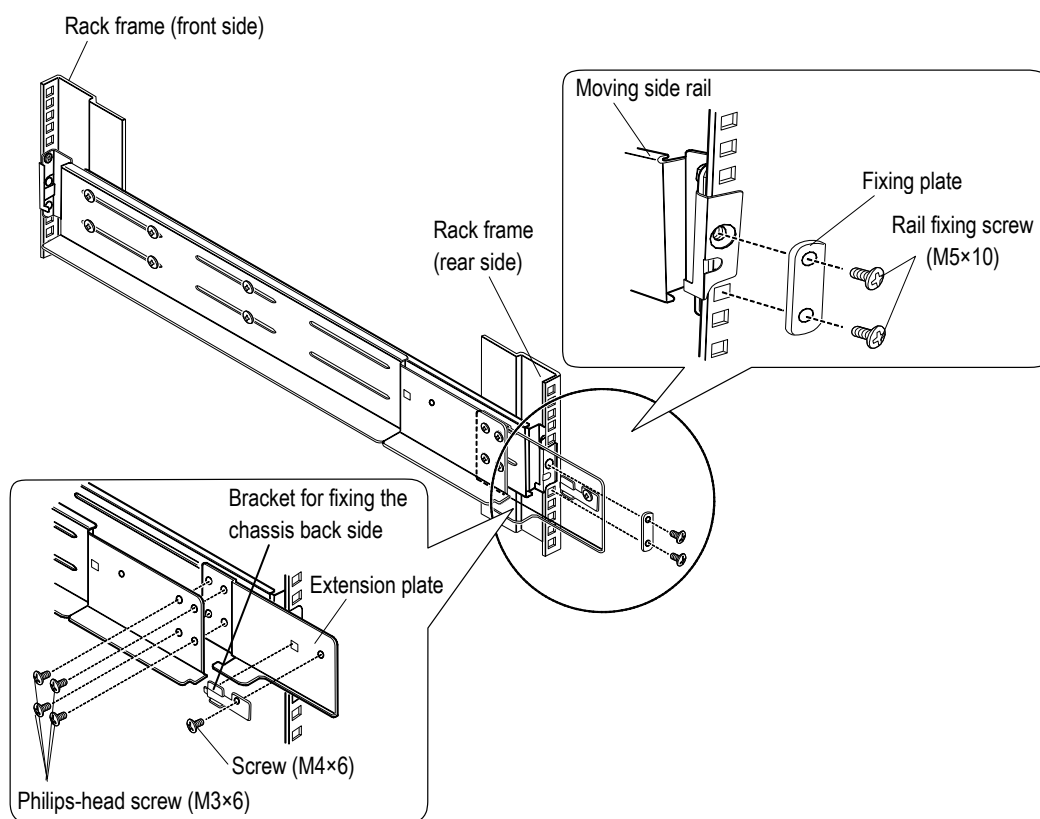

Figure 2.2.17 Installing Rack Rails (Square Hole) for Controller Box (2U)-3
- (vi) Fix the moving side rail (R) using the fixing plate with two screws (M5×10) (See Figure 2.2.17.)